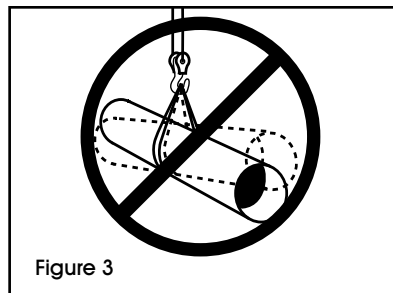

Figure 3
- Loads must be rigged to prevent slippage. (See Figure 3)